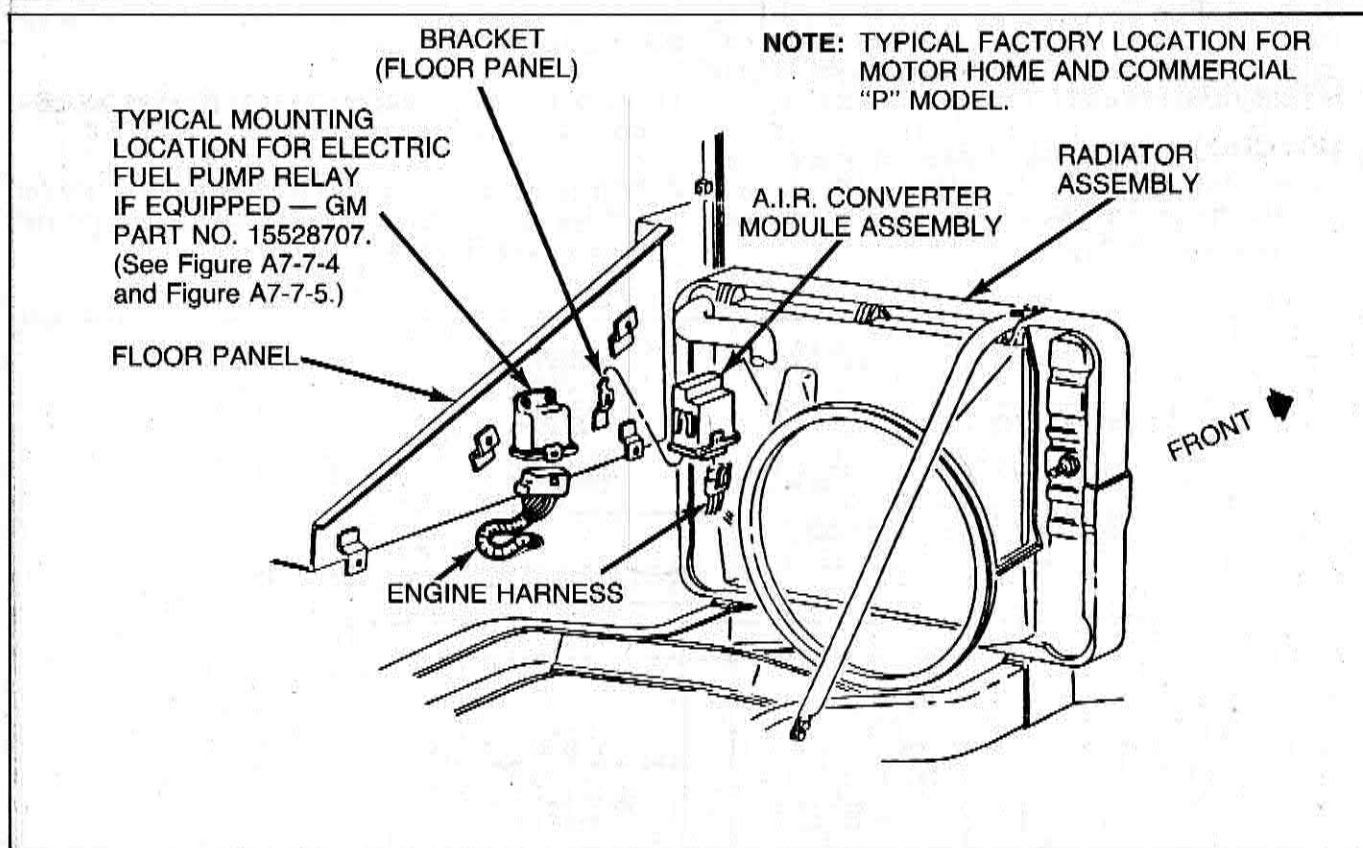

Figure A7-17-2 — A.I.R. Connector Module and Electric Fuel Pump Relay Locations 1989 & Prior
2. With ignition on, disconnect each solenoid connector and with a test light, check for a light across the terminals. (See Figure A7-17-2.)